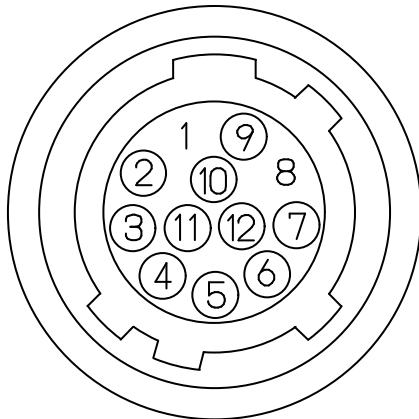

**Figure 1**
## 2. DIP Switch Settings (Refer to Dip Switch in Figure 1)
3. External Sync. (HD/VD) signal impedance setting (See **External Sync** in **Figure 1**)
4. Gain Mode Setting (See **Gain Mode Switch** in **Fig. 1**)
The gain can be adjustable by the manual gain pot (See **Manual Gain Pot** in **Fig. 1**).